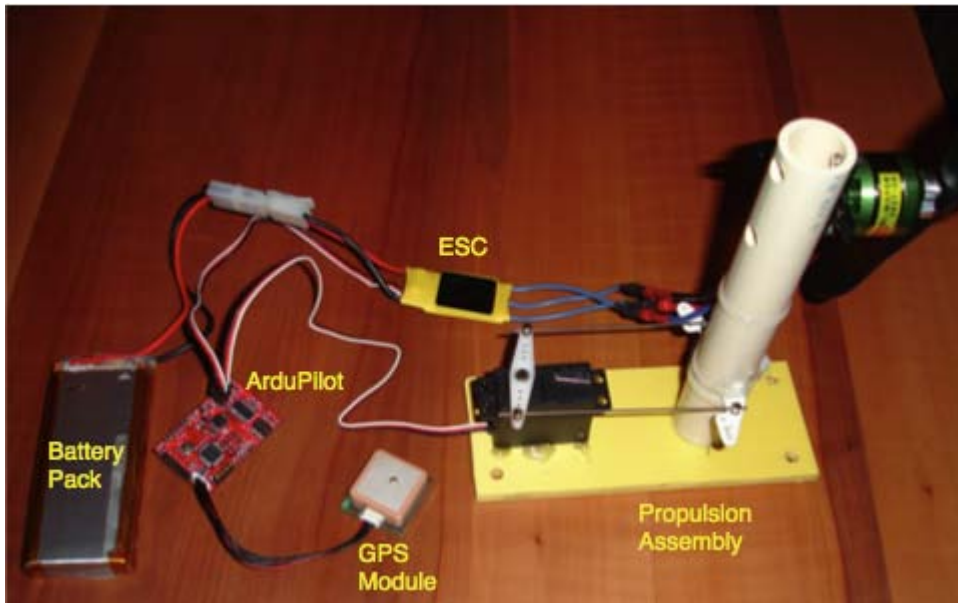

Figure 9-47. The whole system together
6. Triple-verify all of the connections. If you have put everything together correctly, the wiring should look like Figure 9-47.